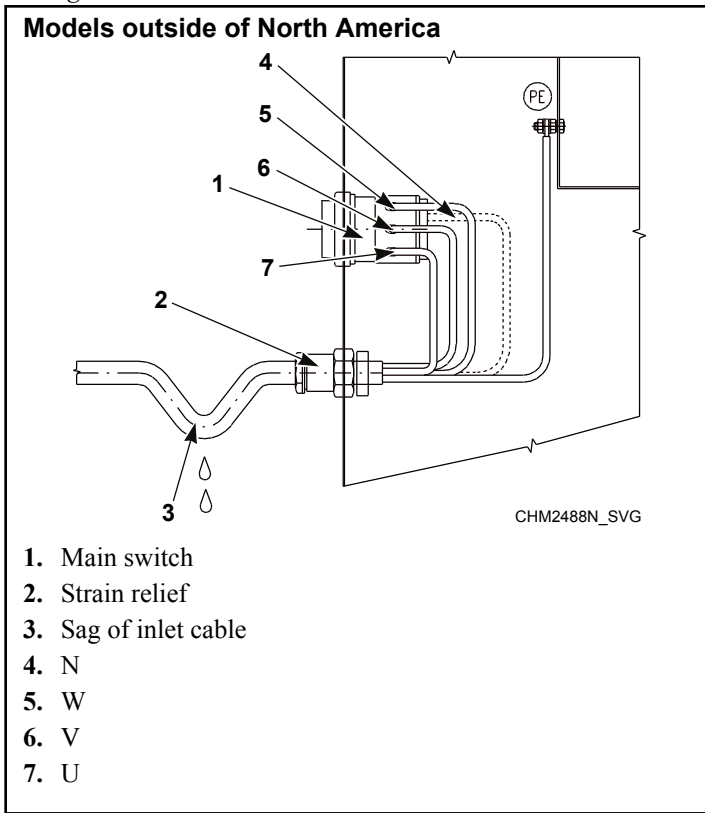
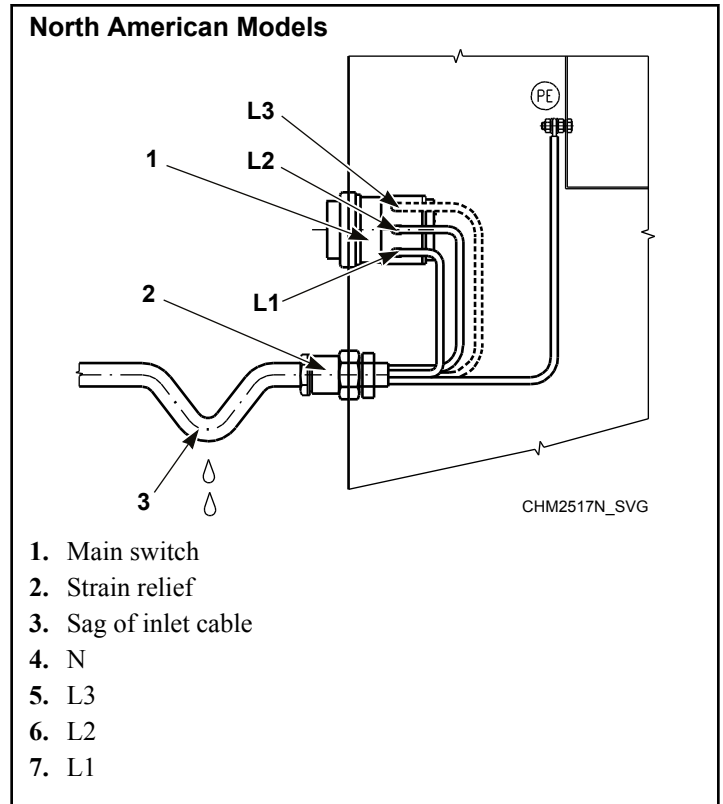

Figure 21
Figure 22
3. With stranded conductors, use wire end tubes with an insulated sleeve (6) for L1/U, (L2/V), (L3/W), (N) conductors. Make sure there is no accidental contact, since the supply cable stays under voltage even when the main switch is off.
- Connect the supply cable conductors to the incoming terminals (main switch [1]), marked with L1/U, (L2/V), (L3/W), (N) and the terminal marked with PE. Refer to *Figure 21* or *Figure 22*.
Provide a sag in the cable, in front of the strain relief. This will prevent condensed water from dripping into the machine. Refer to *Figure 21* or *Figure 22*.